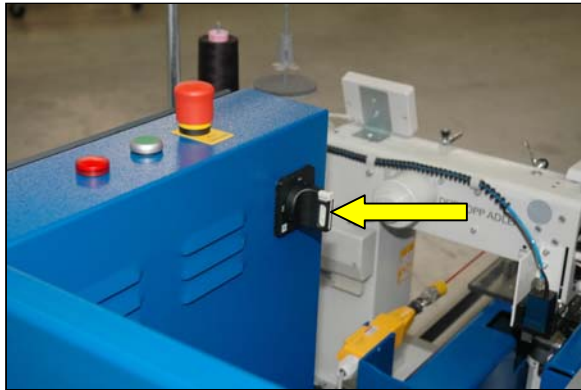

Figure 18 Main switch
- ▶ Switch on the entire machine by using the switch at the back of the control box (see Figure 18).